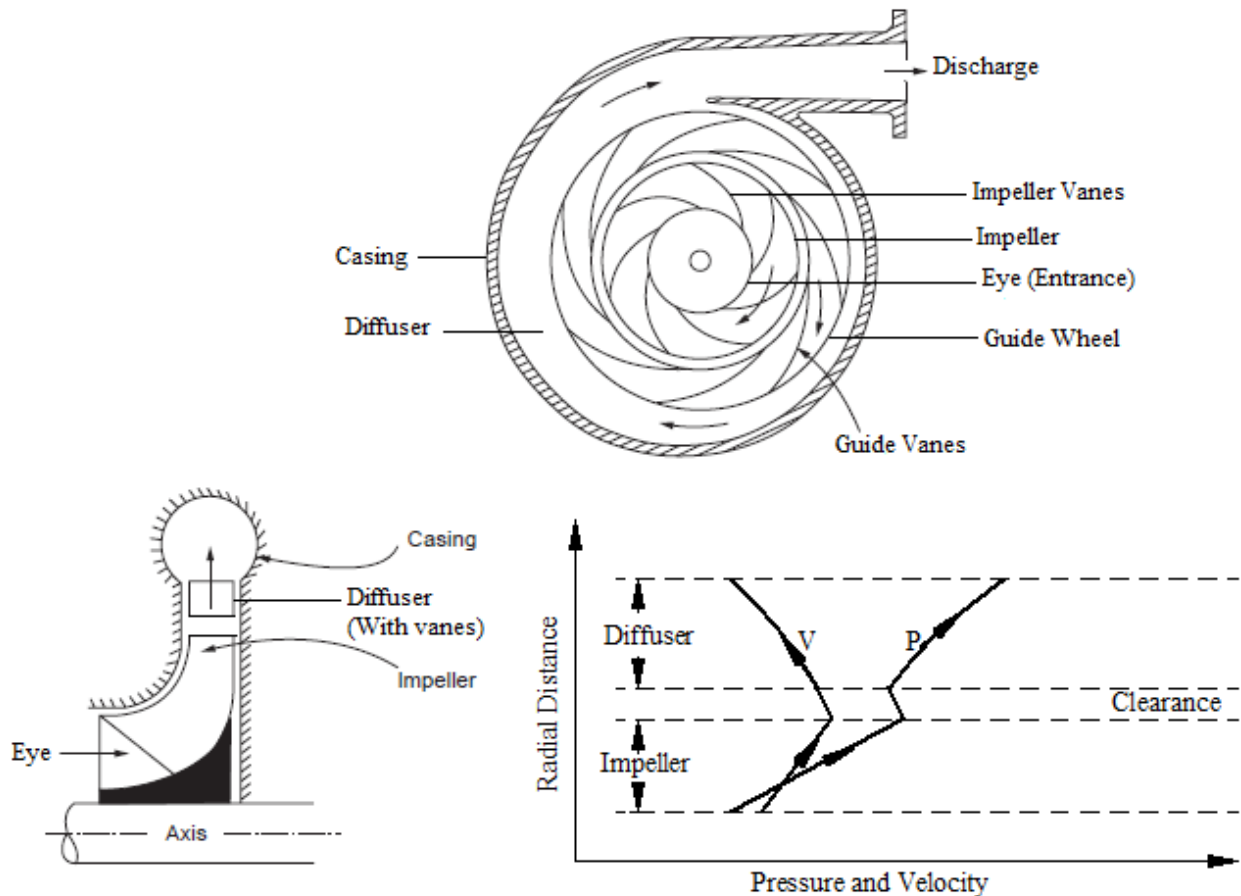

Fig. 5.1 Pressure and velocity diagram for centrifugal compressor
**Answer:** The principal components are the impeller and the diffuser. When the impeller is rotating at high speed, air is drawn in through the eye of the impeller. The absolute velocity of the inflow air is axial. The air then flows radially through the impeller passages due to centrifugal force. The total mechanical energy driving the compressor is transmitted to the fluid stream in the impeller where it is converted into kinetic energy, pressure and heat due to friction. The function of the diffuser is to convert the kinetic energy of air that leaving the impeller into pressure. The air leaving the diffuser is collected in a spiral casing from which it is discharged from compressor. The pressure and velocity variation across the centrifugal compressor is shown in figure 5.1.